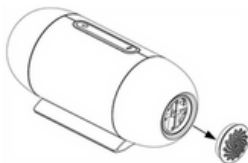

Fig. 15-3
2. Open the air filter cap to remove the air filter, as shown in Fig. 15-3.